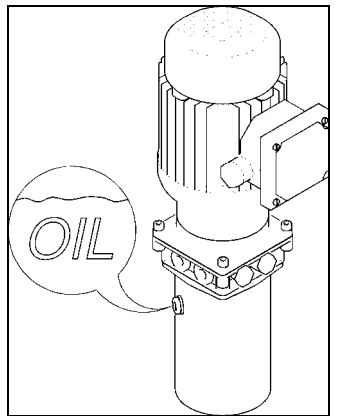

Fig.35
- B. Check hydraulic oil level once a month (Fig.35).